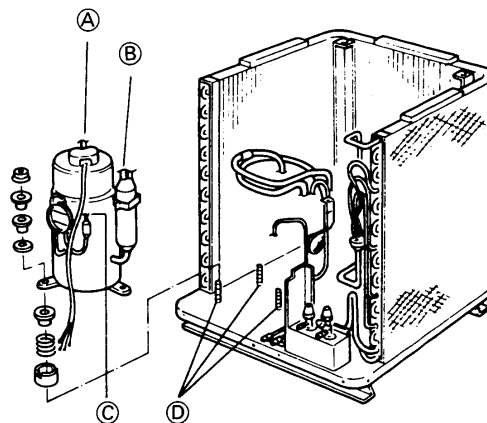

Fig. 10
Take apart three joints ①, ② and ③ brazed to the compressor by brazing torch (Fig. 10).